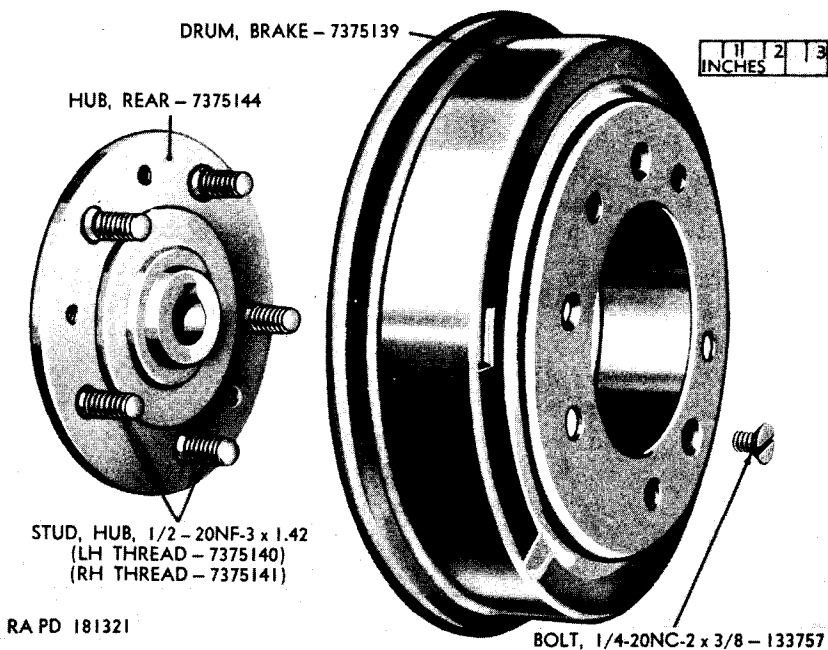

Figure 185. Rear wheel hub and brakedrum—disassembled view.
- (2) *Rear hubs* (fig. 185). Remove three bolts which secure each to its respective rear hub brakedrum and pull from rear hub brakedrum.
c. Rear Hubs (fig. 185). Position rear hub in brakedrum and secure hub to drum with three $\frac{1}{4}$ -20NC-2 x $\frac{3}{8}$ bolts.